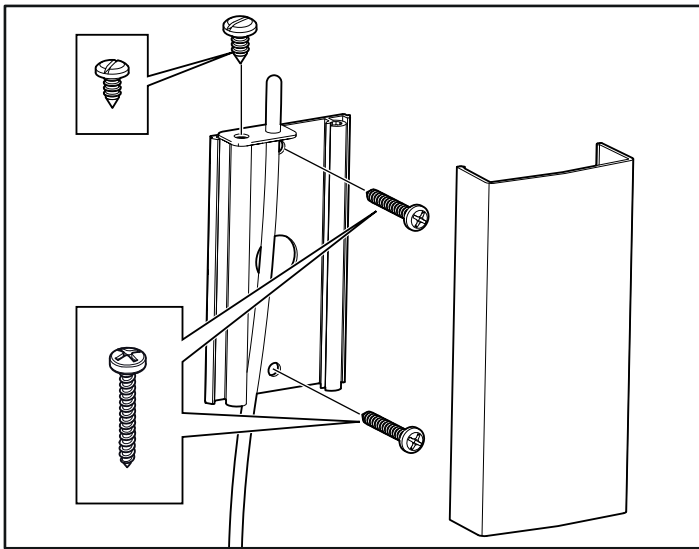
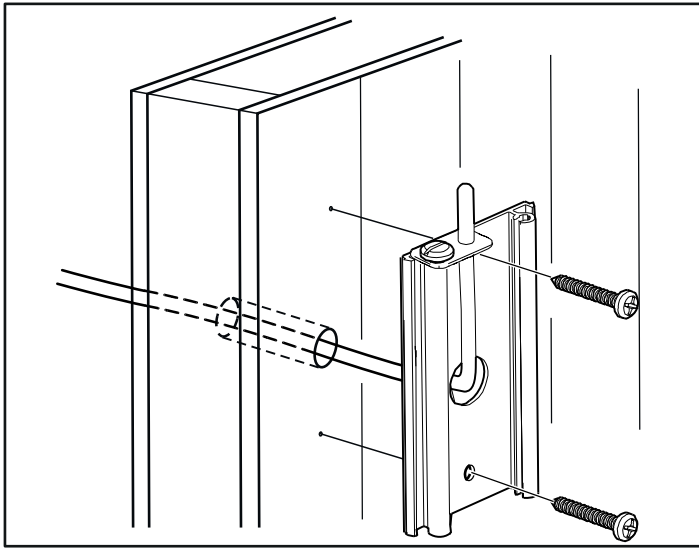

Figure 15: Installing the sensor
Figure 16: Wiring through the wall.
13. Install the sensor on the wall see Fig 15. The thermistor wire may also be passed through the wall. Seal any holes in the wall behind the sensor, see Figure 16, page 14. The thermistor wire may be extended outside the sauna using low voltage wire (2-lead).